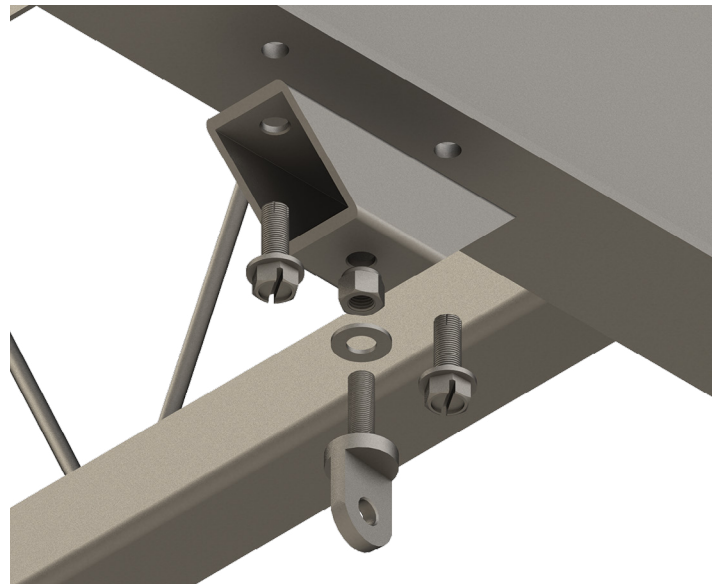

Fig.2
F. Drill remaining pilot hole to $\frac{5}{16}$ " and insert a $\frac{3}{8}$ " - 16 x 1" self-tapping bolt and tighten (**Fig.2**).